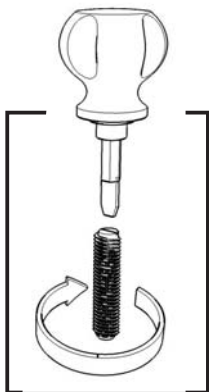

Figure 1
Insert all Bolts into the pre-drilled holes of Seat (A). (See Figure 1)